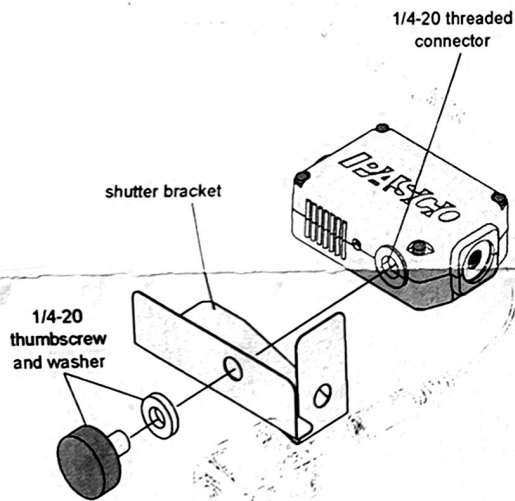

**Figure 1**
1. Connect the Infrared Sensor unit to analog channel A, B, or C of the *Science Workshop* computer interface box using the cable with the DIN connectors (Figure 1). Alternatively, the unit can be plugged directly into the analog channel jack without using the cable.